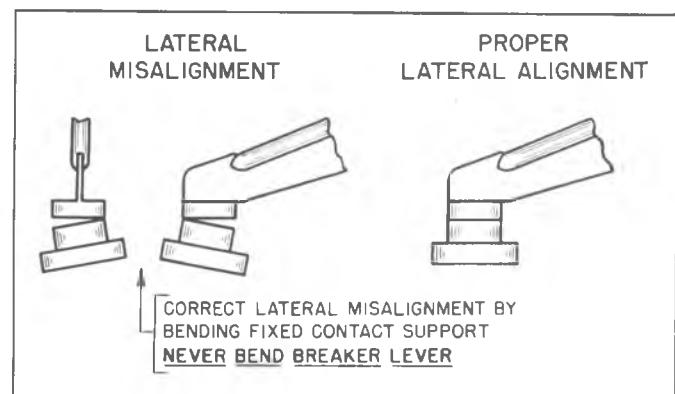

Fig. 17i—Alignment of Points
The point opening of new points can be checked with a feeler gauge, but the use of a feeler gauge on rough or uncleaned used points is not recommended since accurate mechanical gauging cannot be done on such points (fig. 17i).
1. If necessary, align points (fig. 17i) by bending the fixed contact support. Do not bend the breaker lever. Do not attempt to align used points; replace them where serious misalignment is observed. Use an aligning tool if available.